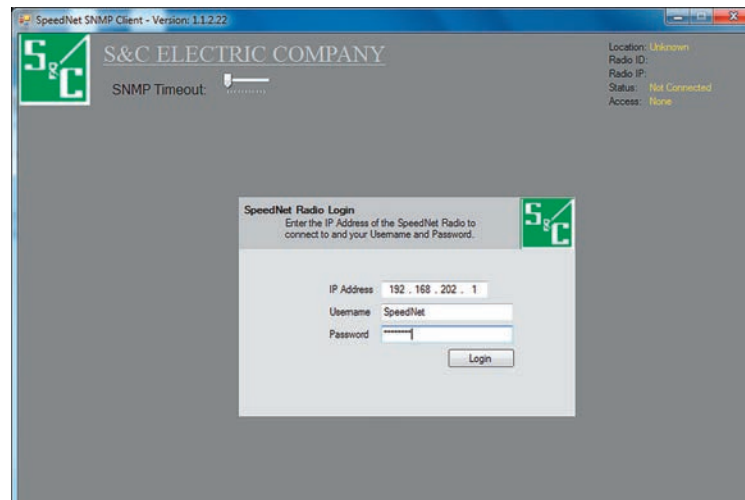

Figure 29. SpeedNet Radio login dialog box.
STEP 4. Open the Client Tool (see Figure 29) and enter: